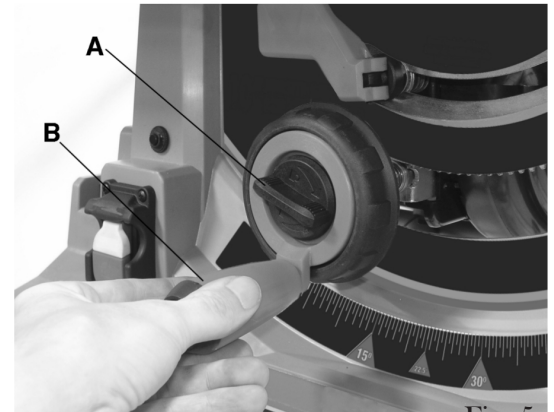
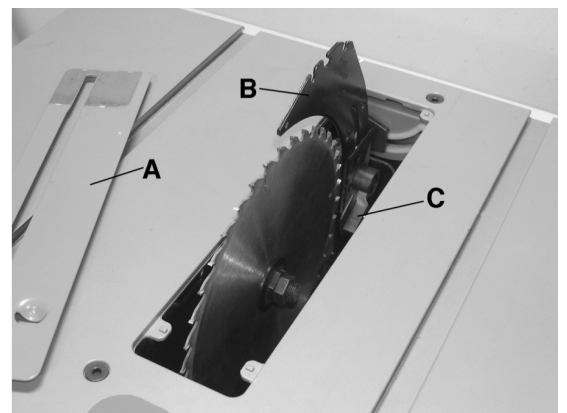

Fig. 5
Fig. 7
Remove the table insert (A, Fig 7) from the table top by pulling it upwards. Turn the blade height lock knob (A, Fig 5) counterclockwise to unlock. Turn the elevation handwheel (B, Fig 5) counterclockwise and raise the blade to its highest position above the table. The riving knife (B, Fig 7) consists of a metal piece, slightly thinner than the blade, that helps to keep the blade kerf open to prevent kickback. This saw is shipped with the riving knife in the non-through cutting or “down” position, as shown in illustration below. The riving knife must be positioned in the through cutting or “up” position for all other operations.
1. Unlock the riving knife lock lever (C, Fig 7) by pivoting it upwards (vertical position).
2. Push the riving knife (B, Fig 7) towards the lock lever to disengage it from its positioning pins/slots.
4. Lock the lock lever (C, Fig 7) by pivoting it downwards (horizontal position). Once secured, make sure the riving knife is perfectly aligned with the centre of the blade, if not, it is most likely due to misalignment of the positioning pins, readjust until alignment is obtained.